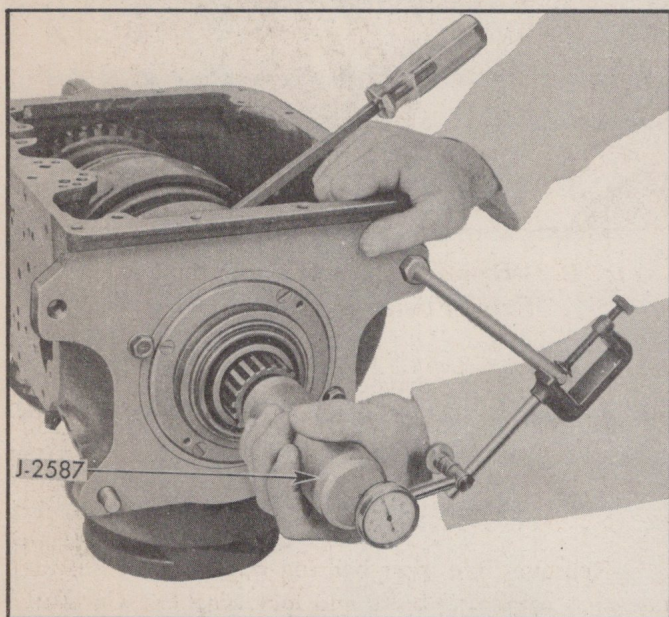

Fig. 123—Checking Main Shaft End Play
4. Move main shaft back and forth (Fig. 123). End clearance should be .004" to .015". Be sure to get just free main shaft end play. Forcing main shaft will give inaccurate reading.